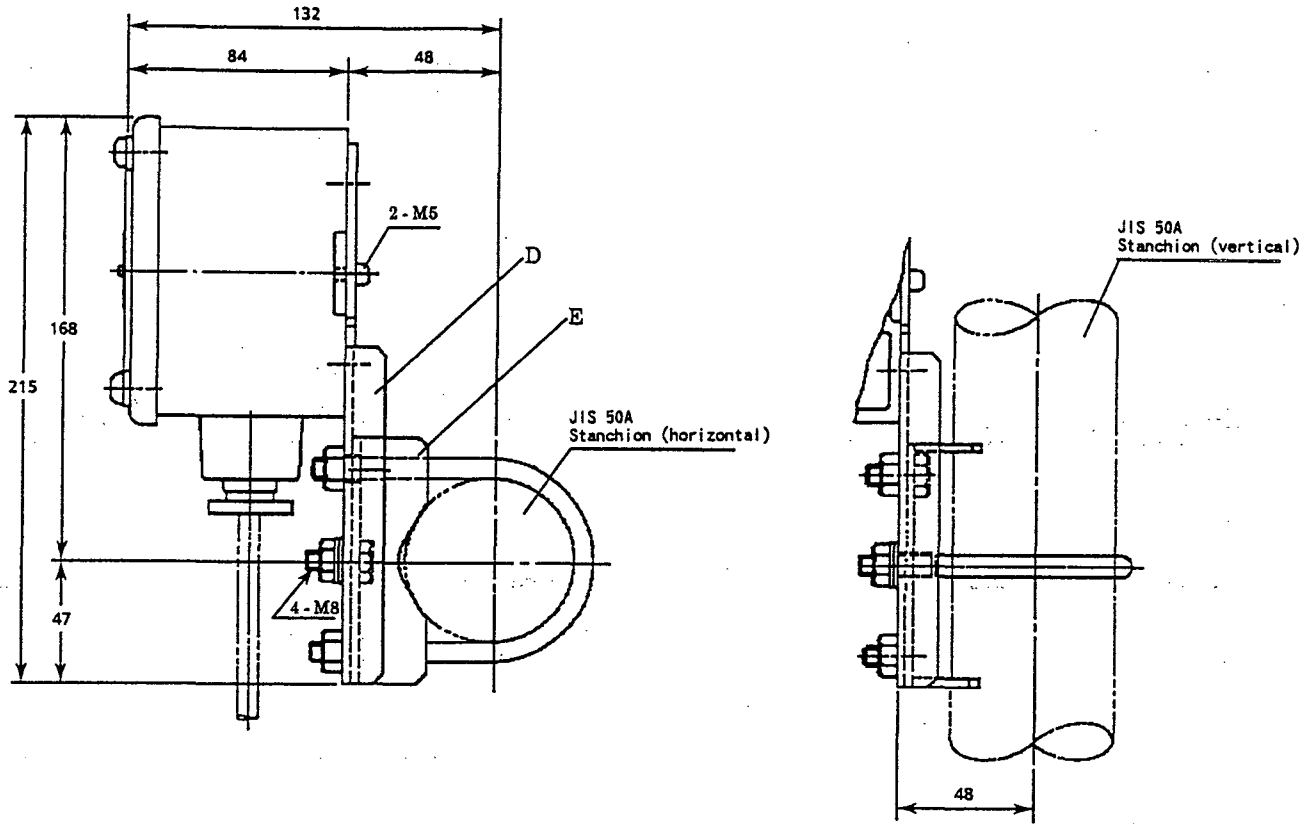

FIG.4 PIPE INSTALLATION (mm)
- (1) Install metal fitting D (furnished) on box with M5 screw. (Fig.4)
- (2) Set V cut section (pipe receptacle) of metal fitting E (furnished) to direction of pipe installation (vertical or horizontal) and install the box on D with M8 screw. (Fig.4)
- (3) Install the box on the pipe with U-bolt. (Fig.4)